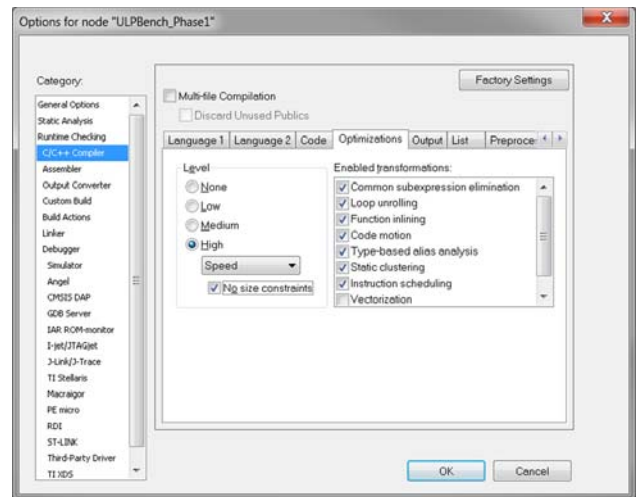

Figure 4. C/C++ Compiler—Optimizations Tab
3. From the **C/C++ Compiler** menu, in the **Optimizations** tab, select **High** in the **Level** pane to ensure that the optimization for high speed is chosen (see Figure 4). Some functions, such as **pltInitialize**, are protected to ensure that they are not optimized. The following code protects a function and prevents the compiler from modifying the function code: